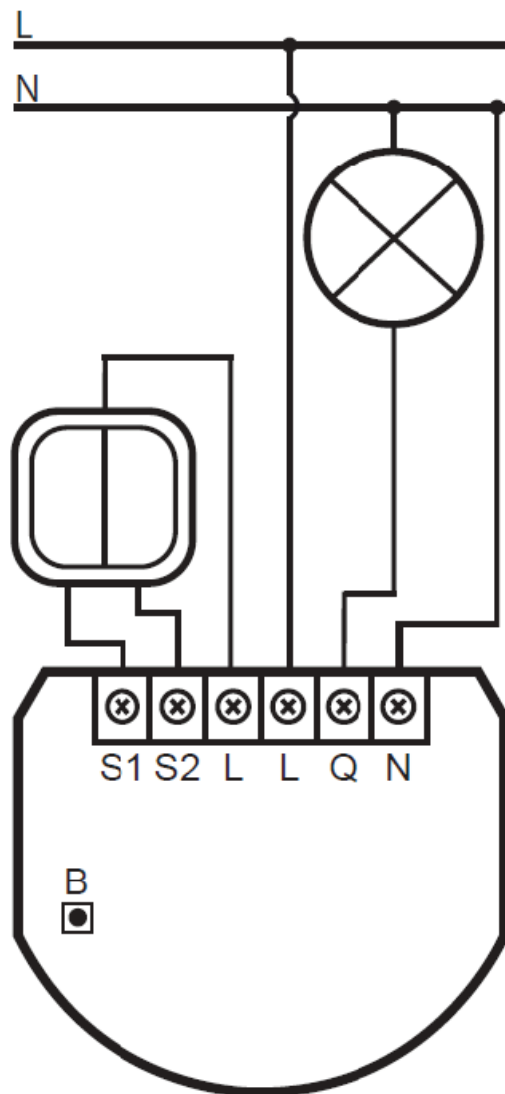

Figure 1: Example connection of SingleSwitch-Control
- Connect only as shown in Figure 1 below..
3. Connect as shown in Figure 1 below.